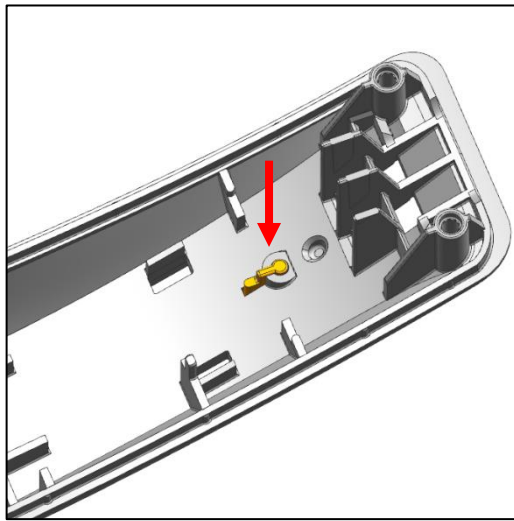

Fig. 19
- a) Push the light guide upward out of the upper housing (Fig. 19).